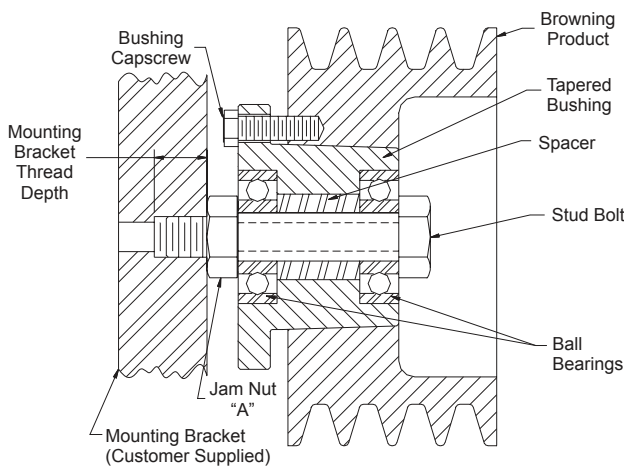
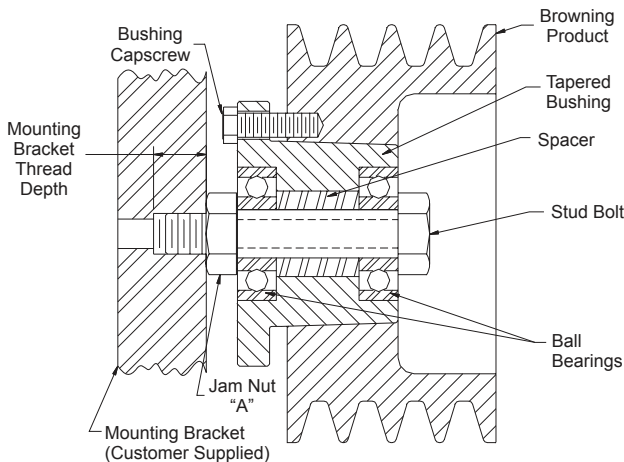

Figure 1
Figure 2
3) The stud bolt is factory installed in the idler bushing as shown in Figure 2 with the bolt head on the flange side of the bushing. If desired, remove the inner jam nut "A", remove the stud bolt from the bushing, and re-install it as shown in Figure 1. Thread jam nut "A" back onto the stud bolt.
9) Slide the idler bushing stud bolt through the mounting bracket pilot hole and thread jam nut "B" onto the stud bolt. See Figure 2.
11) Thread the stud bolt into the threaded hole in the mounting bracket. See Figure 1. Tighten the head of the stud bolt to the torque listed in Table 2. Discard the unused jam nut "B".